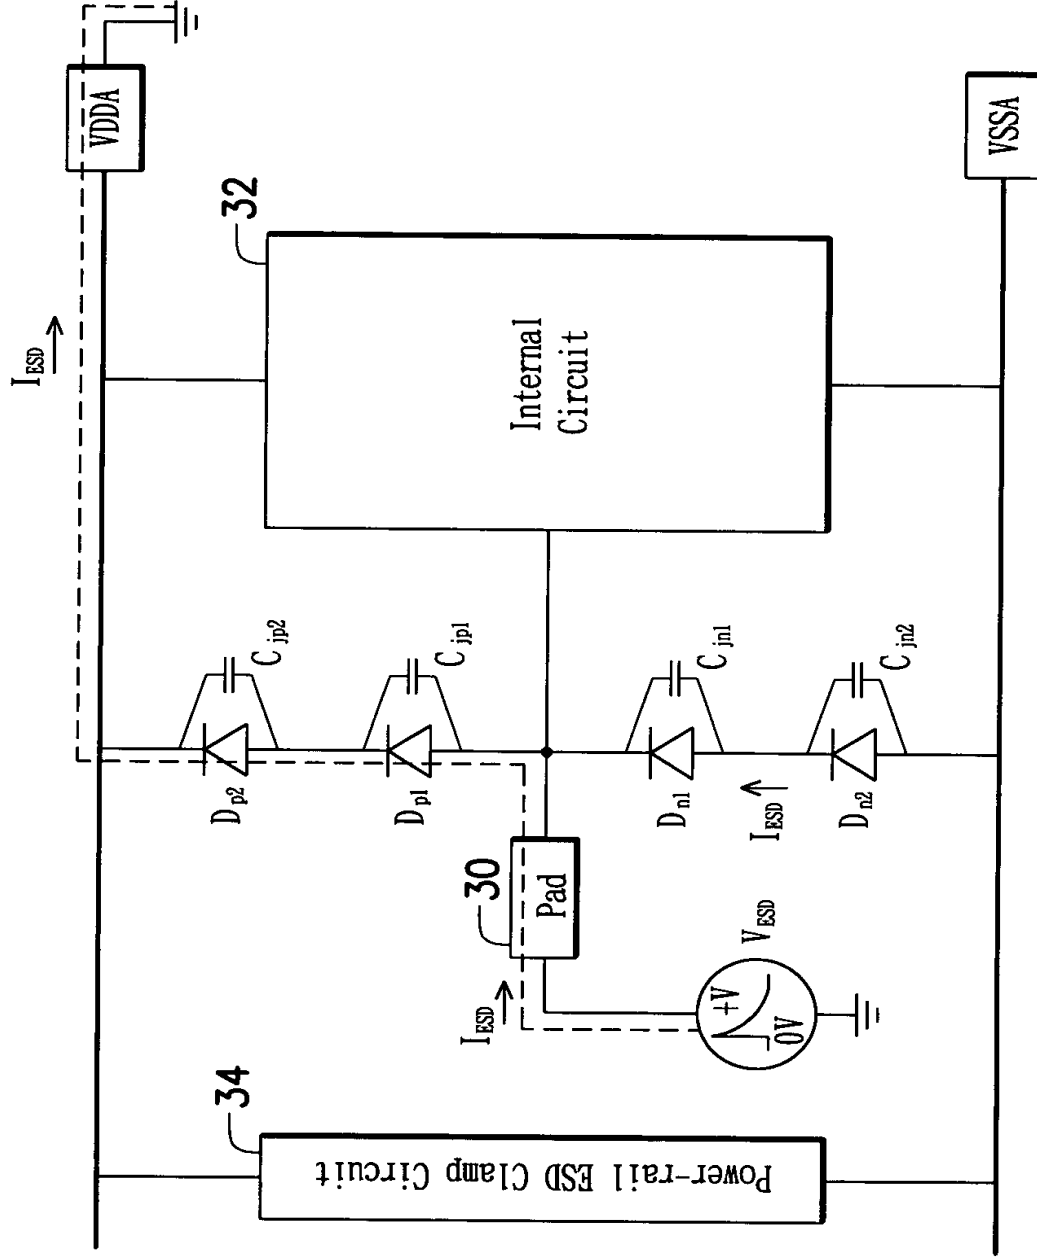

FIG. 9
FIG. 9 is a schematic diagram of an ESD protection circuit for a power rail. The circuit includes a Power-rail ESD Clamp Circuit (34) connected to VDDA and VSSA. An Internal Circuit (32) is also connected to VDDA and VSSA. A Pad (30) is connected to the Power-rail ESD Clamp Circuit (34) and the Internal Circuit (32). The Pad (30) is protected by a series of diodes and capacitors: D_{p2} and C_{jp2} are connected to VDDA; D_{p1} and C_{jp1} are connected to the Internal Circuit (32); D_{n1} and C_{jn1} are connected to the Internal Circuit (32); and D_{n2} and C_{jn2} are connected to VSSA. A voltage source V_{ESD} is applied to the Pad (30), and the resulting current I_{ESD} is shown flowing through the circuit.